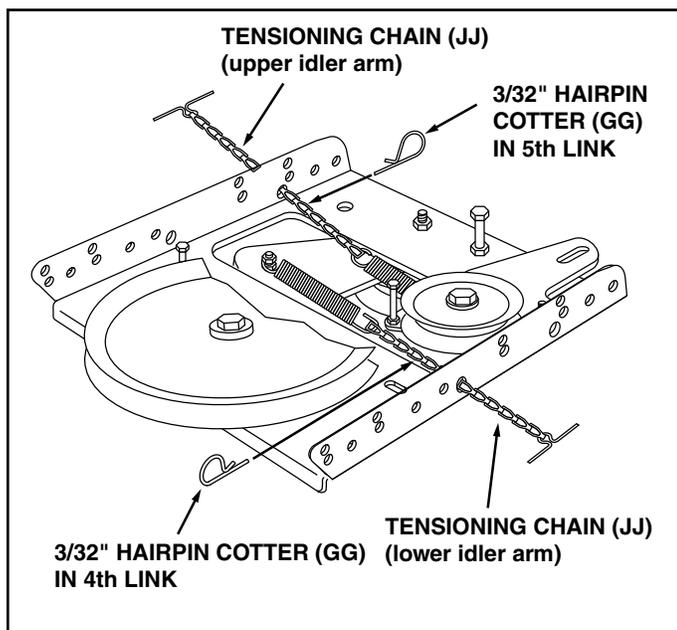

FIGURE 15
STEP 15: (SEE FIGURE 15)
- Insert tensioning chains (JJ) through the holes shown and attach to the springs on the upper and lower idler arms.
- Install a 3/32" hairpin cotter (GG) in the 5th link of the chain attached to the upper idler arm.
- Install a 3/32" hairpin cotter (GG) in the 4th link of the chain attached to the lower idler arm.